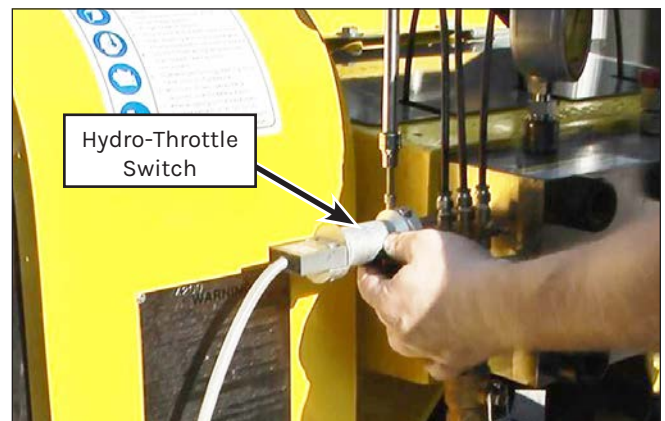

Figure 77: Hydro-Throttle Switch and Housing Installation.
27. Place the hydro-throttle switch and housing (Figure 77) into position and install the two bolts that secure it.